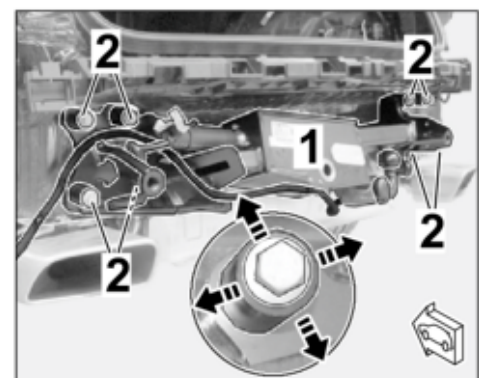

Figure 6
2.1.1 Install the trailer hitch using 8 new bolts (M12 x 1.5 x 90) at the left and right and tighten hand-tight. ⇒ *Figure 6*
2.1.2 Align bolt guides for the trailer hitch (8 x) symmetrically with respect to the 8 bolt heads M12 x 1.5 x 90. ⇒ *Figure 6 -Magnifier-*